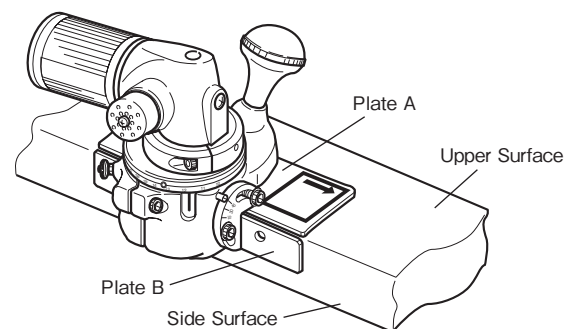

Fig. 14
- (1) Place the tool on workpiece with Plate A on upper surface of workpiece and Plate B on side surface, as indicated in Fig.14. Then, turn the Eccentric Ring to adjust the Indexable Inserts to cut properly side surface, and conduct the first cut (see Fig.15).
- (2) Next, placing Plate A on side surface and Plate B on upper surface, conduct the second cut.